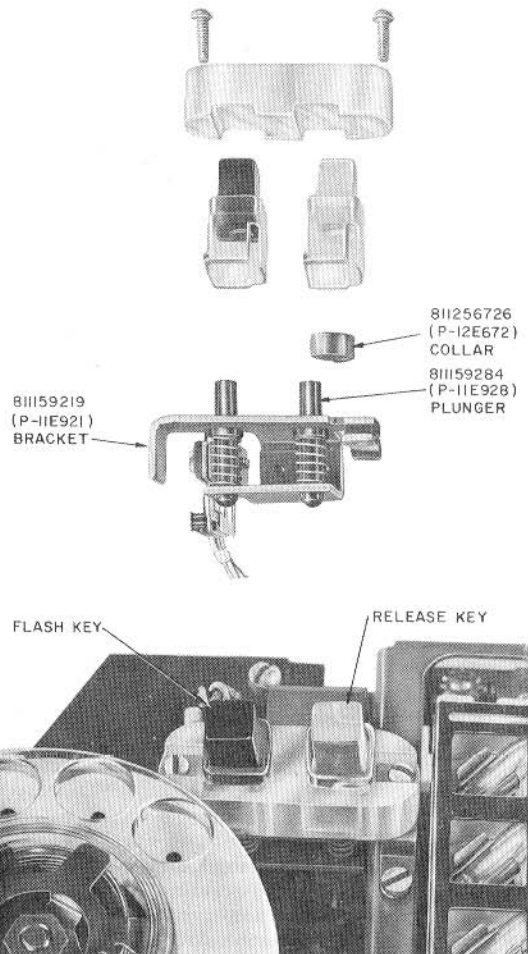

Fig. 27—811159872 (P-11E987) Switch Assembly
- (1) Remove faceplate assembly.
- (2) Remove two switch assembly screws (Fig. 27).
(3) Remove button assembly.
(4) Place 811256726 (P-12E672) collar around 811159284 (P-11E928) plunger (Fig. 27).
(5) Reassemble switch assembly.